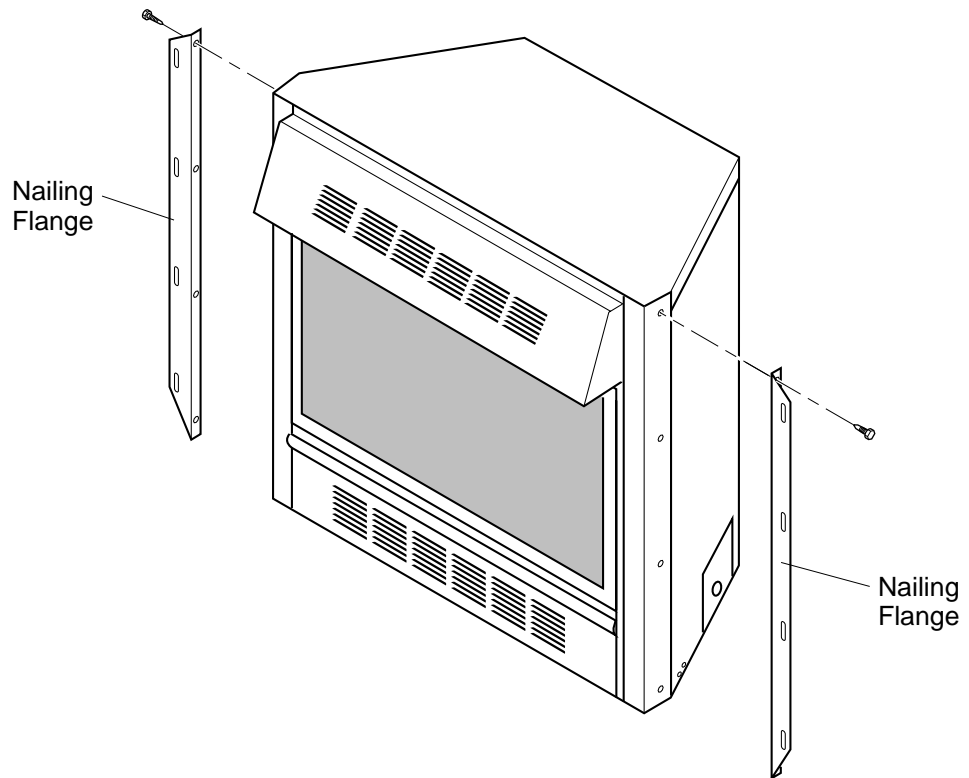

Figure 13 - Attaching Nailing Flange Accessory
3. Attach nailing flange accessory to each side of fireplace (see Figure 13). See *Accessories*, page 33 for nailing flange.